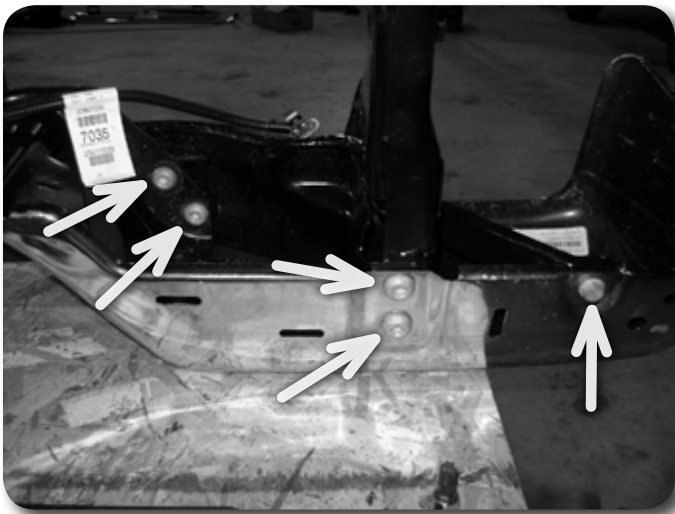

Figure 7
9. Remove the 10 bolts (5 per side - Figure 7) mounting the steel shell of the bumper to the main bumper structure. Remove the shell from the frame. Hardware will not be reused.